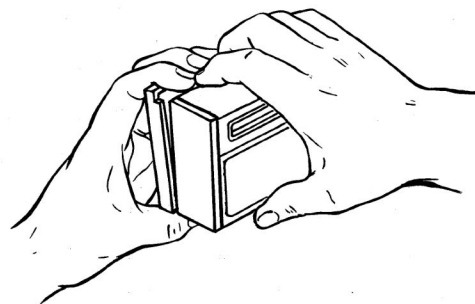
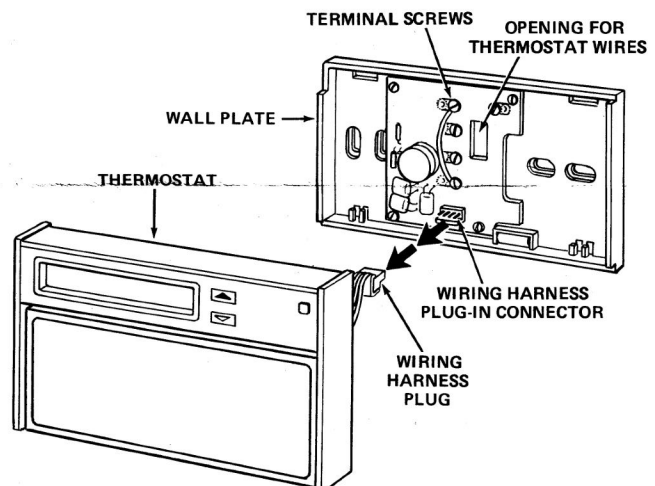

Fig. 1
Fig. 2
STEP 1. Remove the packing material from the thermostat. Holding fingers along the top, between the thermostat and wall plate (Fig. 1), gently unsnap the thermostat from the top portion of wall plate. Thermostat is hinged at the bottom. To disengage thermostat at hinges, rotate top out and lift thermostat upward. Carefully disconnect wiring harness plug from wall plate (Fig. 2).
STEP 4. Pull wires through opening near center of wall-plate and connect wires beneath terminal screws. See fig. 2.